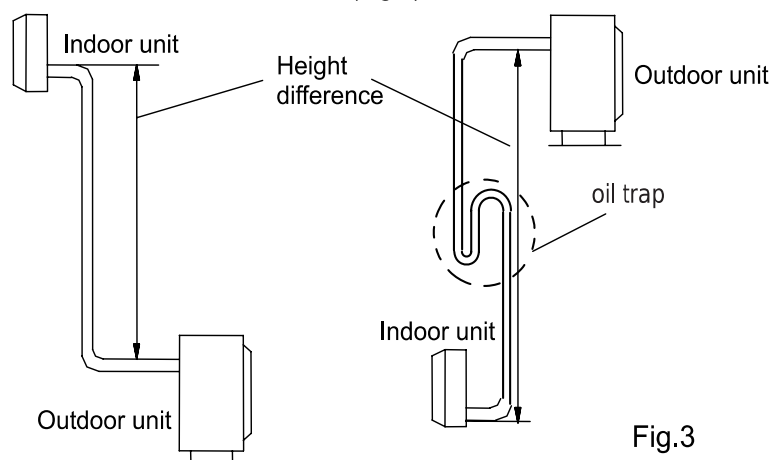

Fig.3
- If the installation position of the outdoor unit is higher than indoor unit and the tubing is longer than 10m, add an oil trap on the gas tubing for every 8m. (Fig.3)